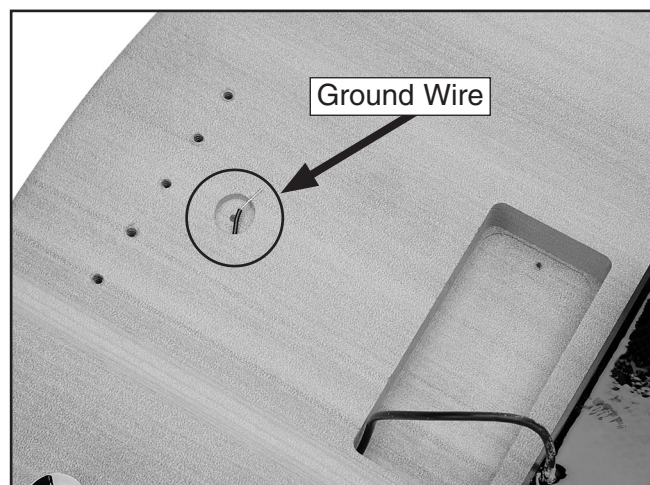

Figure 21. Ground wire above cavity.
1. Remove tape from the end of the ground wire and place the exposed portion of the wire over the edge of the ground wire cavity, as shown in **Figure 21**.